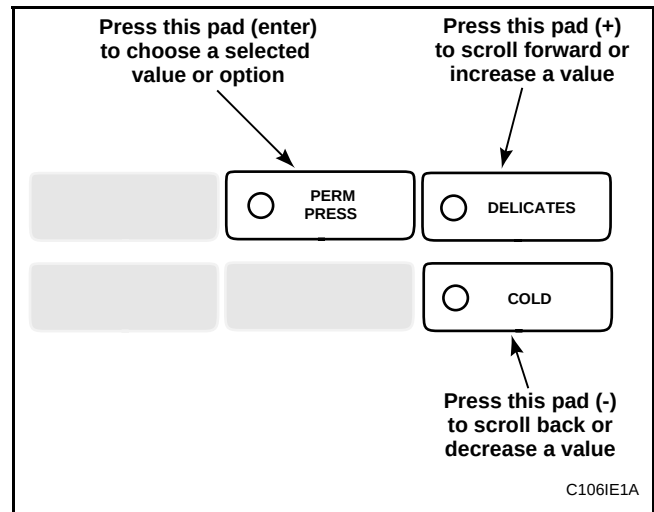

Figure 48
5. Press the DELICATES (+) or the COLD (-) keypad to increase or decrease the current number of minutes displayed in the VFD to the desired number of minutes. See **Figure 48**.